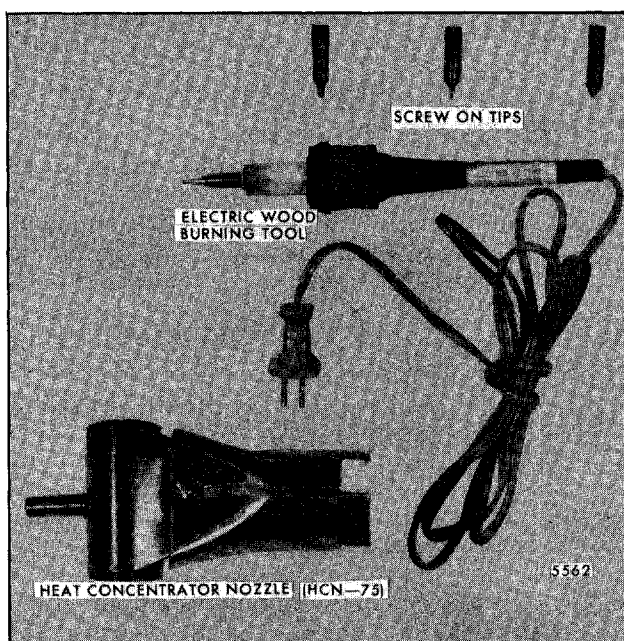

Fig. 8-51-Wood Burning Tool and Heat Concentrator Tool
9. Electric wood burning tool with screw-on tips (or equivalent) - used for smooth cuts, scuffs or gouges (Fig. 8-51).
6. Apply heat to damaged area using a hot air gun with heat control nozzle attached (Fig. 8-51).